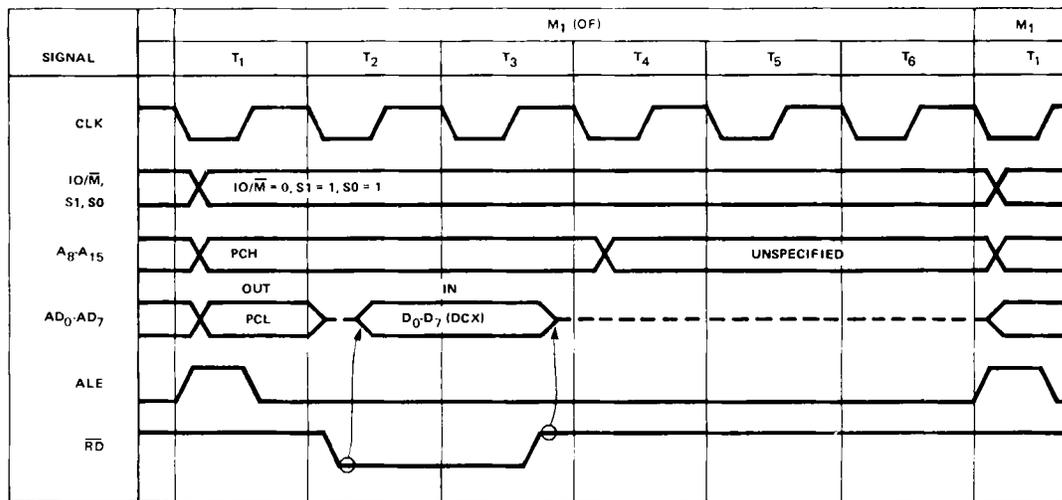
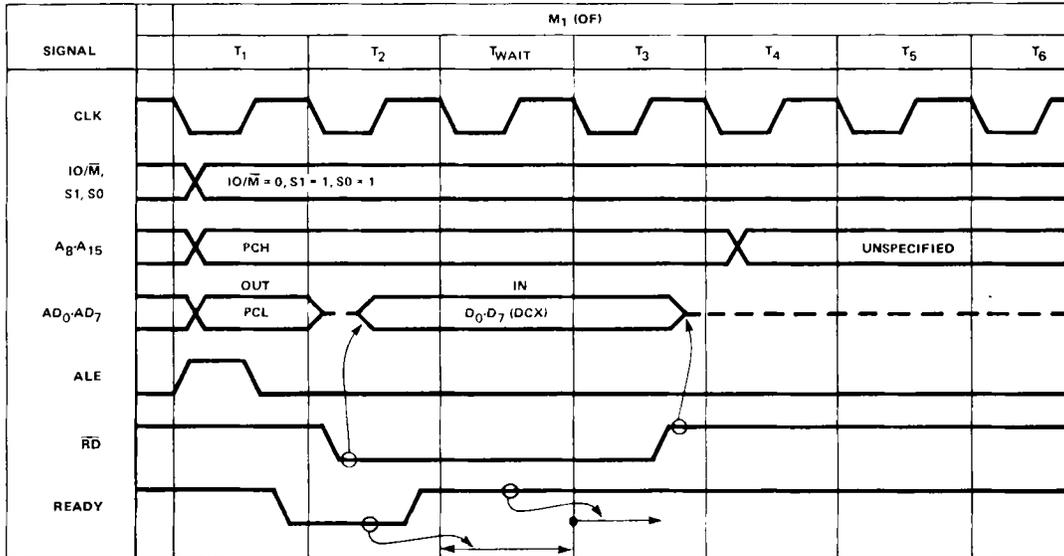
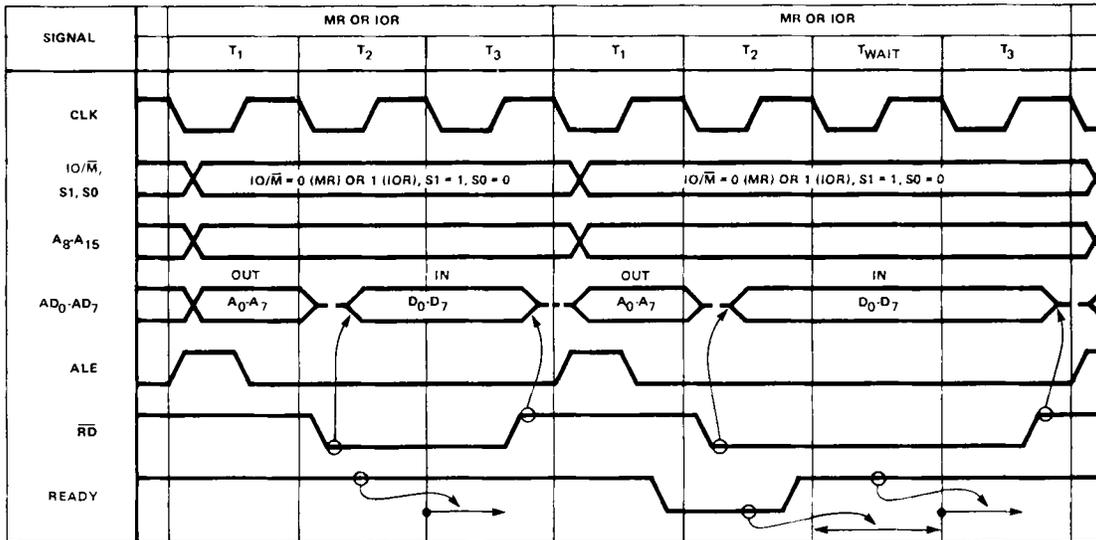

FIGURE 2-13 OPCODE FETCH MACHINE CYCLE (OF DCX INSTRUCTION)
FIGURE 2-14 OPCODE FETCH MACHINE CYCLE WITH ONE WAIT STATE
FIGURE 2-15 MEMORY READ (OR I/O READ) MACHINE CYCLES (WITH AND WITHOUT WAIT STATES)
Figure 2-13 shows the timing relationships for an OF machine cycle. The particular instruction illustrated is DCX, whose timing for OF differs from other instructions in that it has six T states, while some instructions require only four T states for OF. In this discussion, as well as the following discussions, only the relative timing of the signals will be discussed; for the actual timings, refer to the data sheets of the individual parts in Chapters 5 and 6.
The first thing that the 8085A does at the beginning of every machine cycle is to send out three status signals (IO/ \bar{M} , S1, S0) that define what type of machine cycle is about to take place. The IO/ \bar{M} signal identifies the machine cycle as being either a memory reference or input/output operation. The S1 status signal identifies whether the cycle is a READ or WRITE operation. The S0 and S1 status signals can be used together (see Figure 2-10) to identify READ, WRITE, or OPCODE FETCH machine cycles as well as the HALT state. Referring to Figure 2-13, the 8085A will send out IO/ \bar{M} = 0, S1 = 1, S0 = 1 at the beginning of the machine cycle to identify it as a READ from a memory location to obtain an opcode; in other words, it identifies the machine cycle as an OPCODE FETCH cycle.
The 8085A also sends out a 16-bit address at the beginning of every machine cycle to identify the particular memory location or I/O port that the machine cycle applies to. In the case of an OF cycle, the contents of the program counter is placed on the address bus. The high order byte (PCH) is placed on the A₈-A₁₅ lines, where it will stay until at least T₄. The low order byte (PCL) is placed on the AD₀-AD₇ lines, whose three-state drivers are enabled if not found already on. Unlike the upper address lines, however, the information on the lower address lines will remain there for only one clock cycle, after which the drivers will go to their high impedance state, indicated by a dashed line in Figure 2-13. This is necessary because the AD₀-AD₇ lines are time multiplexed between the address and data buses. During T₁ of every machine cycle, AD₀-AD₇ output the lower 8-bits of address after which AD₀-AD₇ will either output the desired data for a WRITE operation or the drivers will float (as is the case for the OF cycle), allowing the external device to drive the lines for a READ operation.
After the status signals and address have been sent out and the AD₀-AD₇ drivers have been disabled, the 8085A provides a low level on \bar{RD} to enable the addressed memory device. The device will then start driving the AD₀-AD₇ lines; this is indicated by the dashed line turning into a solid line in Figure 2-13. After a period of time (which is the access time of the memory) valid data will be present on AD₀-AD₇. The 8085A during T₃ will load the memory data on AD₀-AD₇ into its instruction register and then raise \bar{RD} to the high level, disabling the addressed memory device. At this point, the 8085A will have finished accessing the opcode of the instruction. Since this is the first machine cycle (M₁) of the instruction, the CPU will automatically step to T₄, as shown in Figure 2-11.
During T₄, the CPU will decode the opcode in the instruction register and decide whether to enter T₅ on the next clock or to start a new machine cycle and enter T₁. In the case of the DCX instruction shown in Figure 2-13, it will enter T₅ and then T₆ before going to T₁.
Figure 2-14 is identical to Figure 2-13 with one exception, which is the use of the READY line. As we can see in Figure 2-11, when the CPU is in T_2 , it examines the state of the READY line. If the READY line is high, the CPU will proceed to T_3 and finish executing the instruction. If the READY line is low, however, the CPU will enter T_{WAIT} and stay there indefinitely until READY goes high. When the READY line does go high, the CPU will exit T_{WAIT} and enter T_3 , in order to complete the machine cycle. As shown in
Figure 2-14, the external effect of using the READY line is to preserve the exact state of the processor signals at the end of T_2 for an integral number of clock periods, before finishing the machine cycle. This "stretching" of the system timing has the further effect of increasing the allowable access time for memory or I/O devices. By inserting T_{WAIT} states, the 8085A can accommodate even the slowest of memories. Another common use of the READY line is to single-step the processor with a manual switch.
Figure 2-15 shows the timing of two successive MEMORY READ (MR) machine cycles, the first without a T_{WAIT} state and the second with one T_{WAIT} state. The timing during T_1-T_3 is absolutely identical to the OPCODE FETCH machine cycle, with the exception that the status sent out during T_1 is $IO/\overline{M} = 0$, $S_1 = 1$, $S_0 = 0$, identifying the cycles as a READ from a memory location. This differs from Figure 2-13 only in that $S_0 = 1$ for an OF cycle, identifying that cycle as an OPCODE FETCH operation. Otherwise, the two cycles are identical during T_1-T_3 .
Figure 2-15 also shows the timing of two successive I/O READ (IOR) machine cycles, the first without a T_{WAIT} state. As is readily apparent, the timing of an IOR cycle is identical to the timing of an MR cycle, with the exception of $IO/\bar{M} = 0$ for MR and $IO/\bar{M} = 1$ for IOR; recall that IO/\bar{M} status signal identifies the address of the current machine cycle as selecting either a memory location or an I/O port. The address used in the IOR cycle comes from the second byte (Port No.) of an INPUT instruction. Note that the I/O port address is duplicated onto both AD_0-AD_7 and A_8-A_{15} . The IOR cycle can occur only as the third machine cycle of an INPUT instruction.